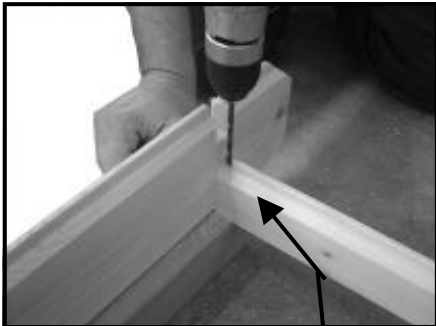

Fig D5
8. Cut notches out of the tongues on the **A1** logs ( fig D5 & D6 ) at centre marks (previous steps ) and drill through for fixing to the bearers .
11. Also measure length at the centre of the building from wall to wall (**A1 to A1**) to ensure correct length before fixing to joists with 1x 80mm screw (fig D5 & D5) at each bearer .